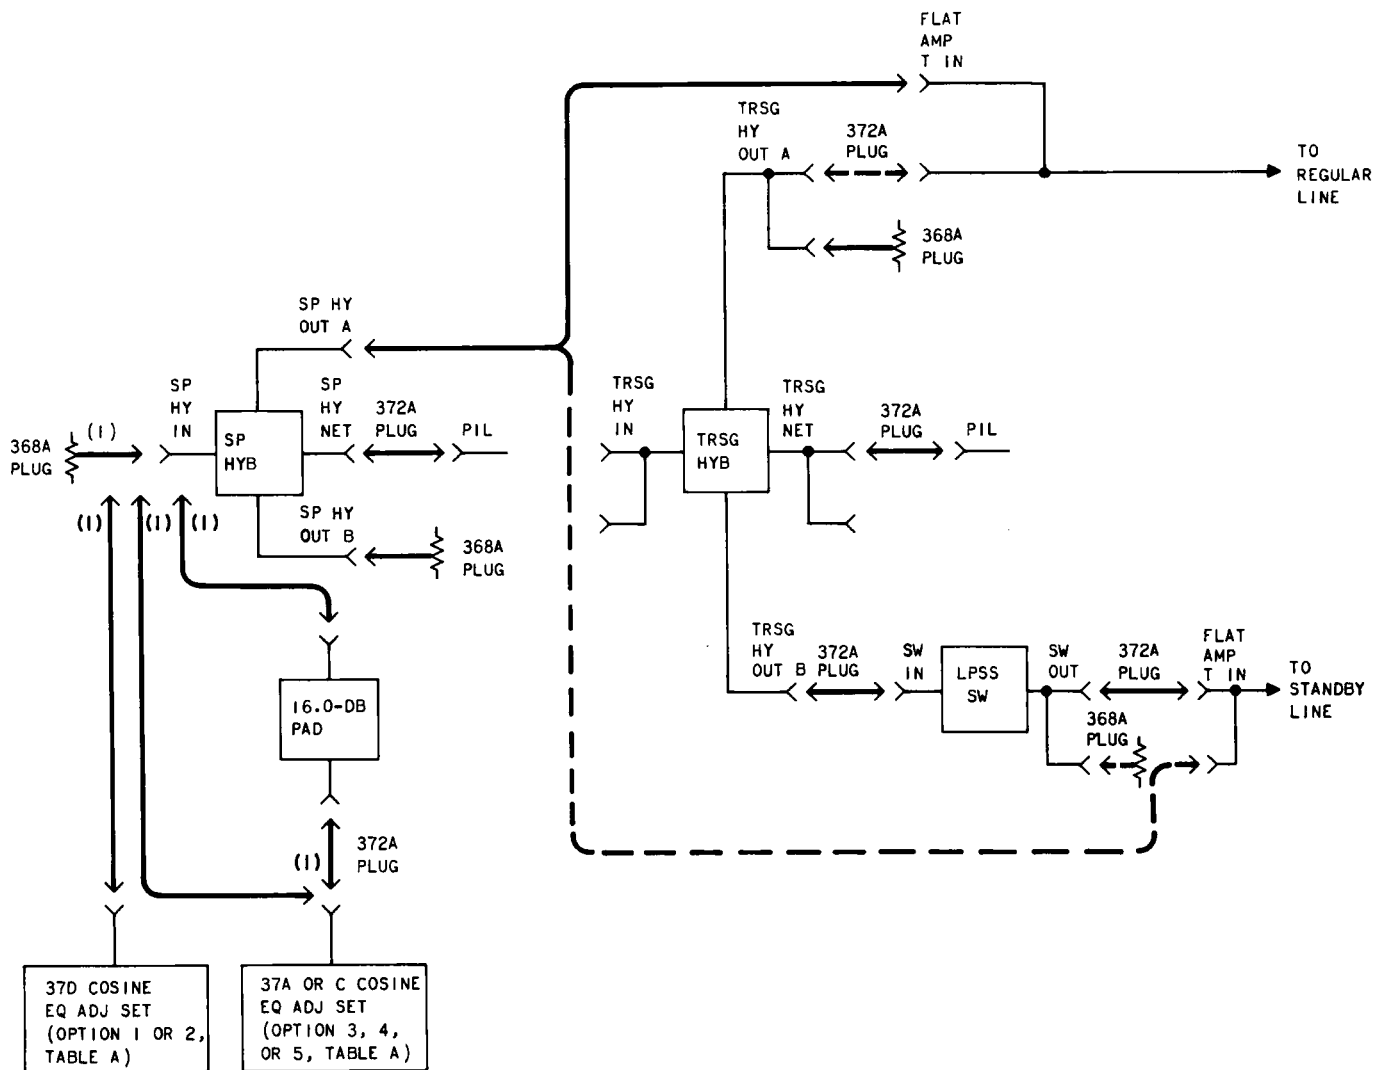

Fig. 2—Test Connections for Gain Equalization at Transmitting Terminal
- 18 Remove 368A plug and connect the 37() cosine equalizer adjustment set to the SP HY IN jack [patch (1), Fig. 2].
33	Disconnect the 37() cosine equalizer adjustment set [patch (1), Fig. 2]; terminate the SP HY IN jack with a 368A (75-ohm) terminating plug.
41	Restore normal transmission connections between TRSG HY OUT A and FLAT AMP T IN for regular line or SW OUT and FLAT AMP T IN for standby line. Remove the 368A plug from the TRSG HY OUT A or SW OUT jack. (See Fig. 2 and Section 359-075-301, Chart 3, Step 1.)
42	Remove the patch between SP HY OUT A and FLAT AMP T IN for regular or standby line (Fig. 2).